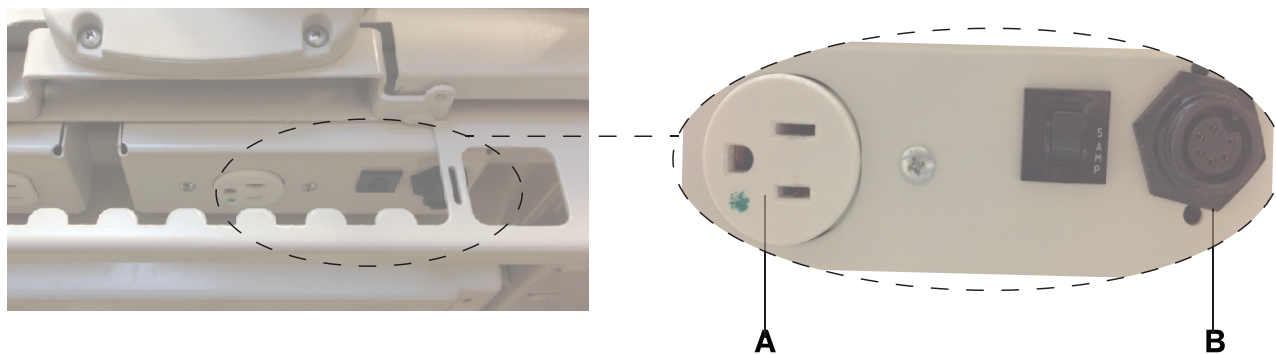

Figure 1-1: InTouch foot end auxiliary power outlet and mattress connector
7. Connect the integration cable from the support surface foot end to the **InTouch** cable adapter (B) (Figure 1-1 on page 1-13).
10. Plug the power cord for the support surface into the **InTouch** foot end auxiliary power outlet (A) (Figure 1-1 on page 1-13).